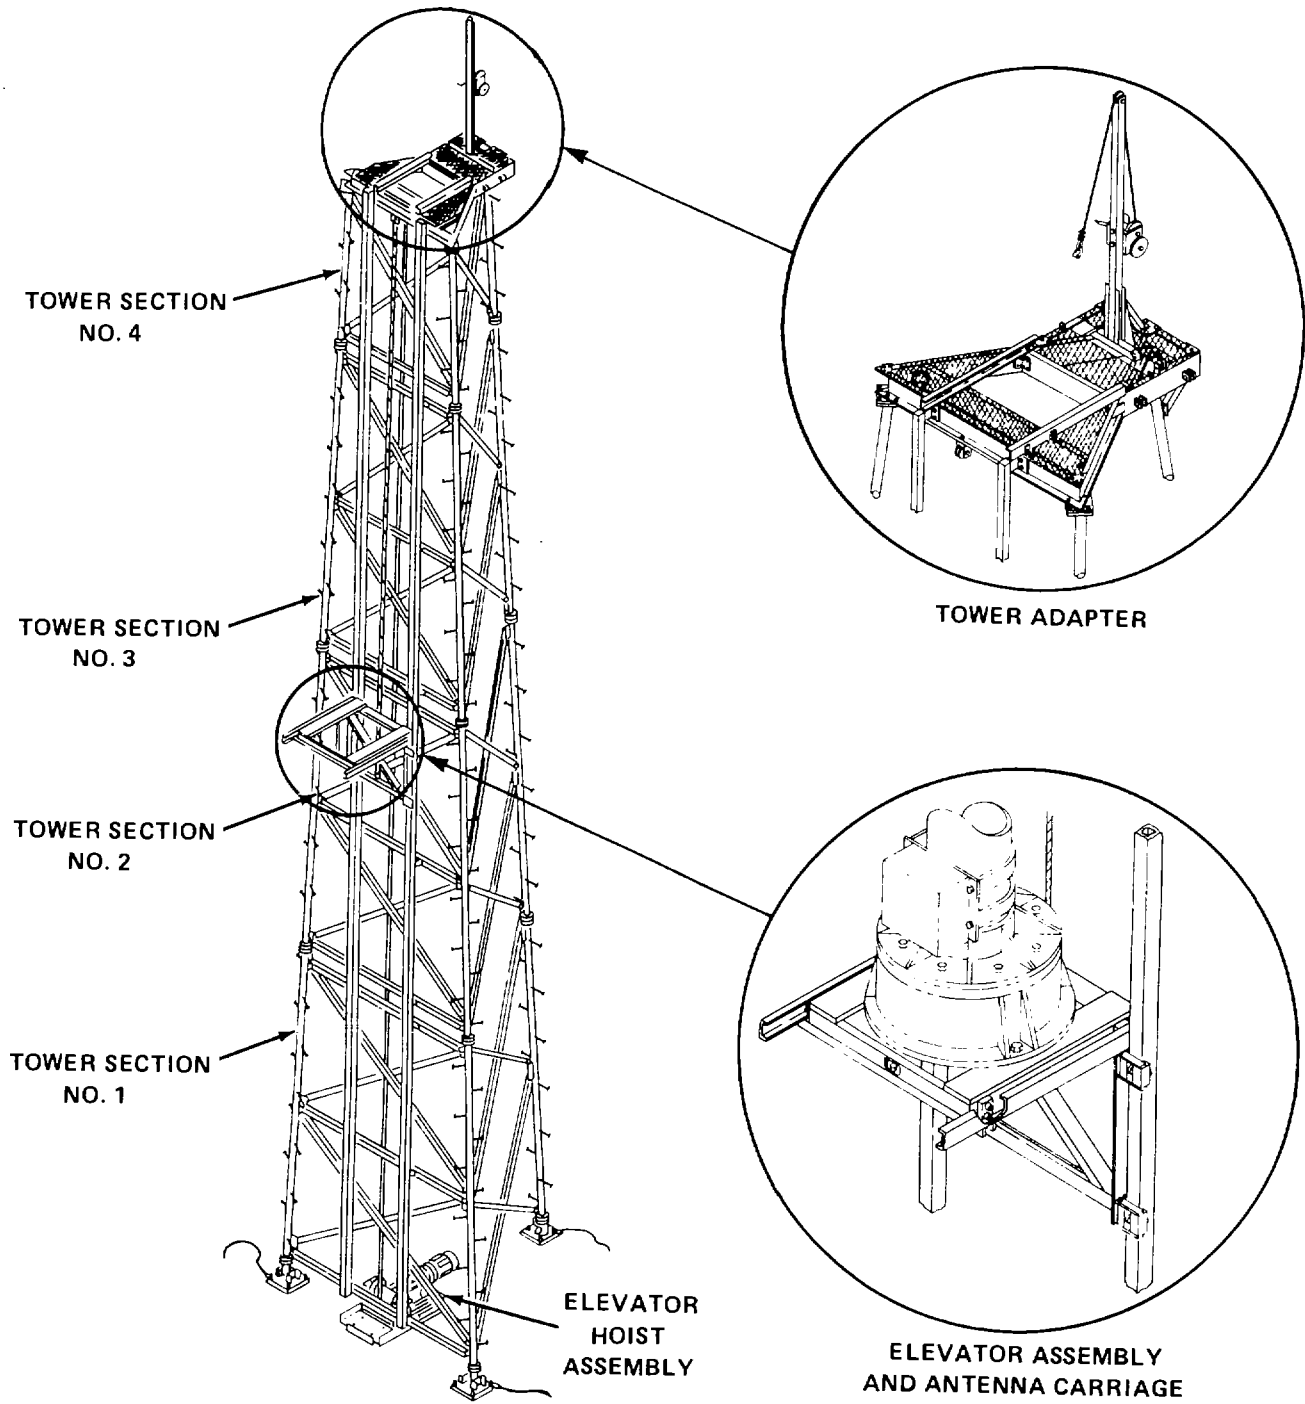

Figure 1-1. Antenna Tower TS-1A
**1-1 SCOPE.** This manual provides operator/crew, organizational, direct support, and general support instructions for the installation and maintenance of the Antenna Tower TS-1A (figure 1-1). A repair parts and special tools list is also included.
**1-8 DESCRIPTION.** The tower (figure 1-1) is a self-supporting heavy-duty structure made of galvanized steel. It is easily erected or disassembled at the site. The structure is built to withstand the adverse effects of severe weather and/or extreme climatic conditions. The major components are described below.